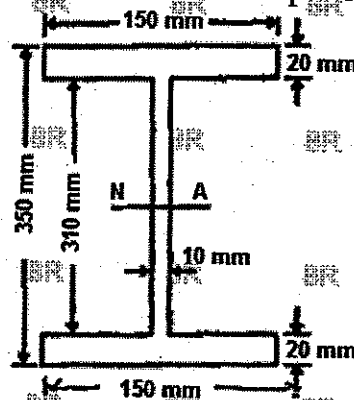

Figure: 2
- 4.a) An I section beam 350  $\times$  150 mm as shown in Figure 2 has a web thickness of 10 mm and a flange thickness of 20 mm. If the shear force acting on the section is 40 kN, find the maximum shear stress developed in the I section.